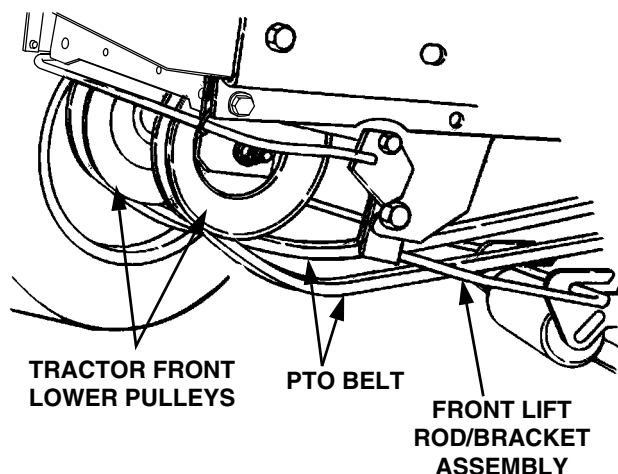

Figure 6-27
10. Open the tractor hood. From the front of the tractor pass the belt upward in front of the lower front pulleys and inside the tractor frame (Refer to Figure 6-27).
12. Twist the two sides of the PTO belt 1/4 turn inward to engage the narrow sides of the belt into the grooves of the two tractor front-lower pulleys (See Figure 6-27).